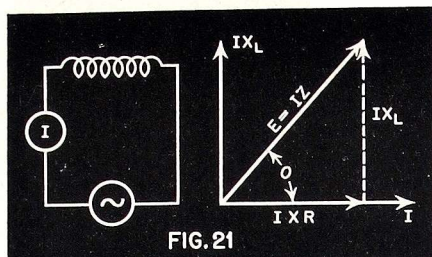

FIG. 21
We are now in a position to analyze the vector diagram of a coil, with due consideration to its d-c. resistance. It should be pointed out, at this stage, that no coil is devoid of resistance, and that assumptions made otherwise, are for purposes of explanation only. Referring to *Fig. 21*, we note that the inductive voltage drop,  $X_L I$  is laid off 90 degrees ahead of the current. On the other hand, the voltage drop due to the d-c resistance of the coil is directly a result of the current flowing through the coil, and is in phase with this current. It is, therefore, laid off along the current line.
Referring back again to Fig. 21, we note that the resultant voltage, E, by equation (2) is,
It will be noticed that due to the d-c resistance in the coil the current lags the applied voltage by less than 90 degrees. The impedance, Z, can be obtained by measuring the current and voltage in the circuit, and dividing the former into the latter, or by applying formula (6), knowing  $X_L$  and R. Formula (6) is one of the most important relationships in a-c circuits, and its derivation indicates only one of the many applications of vectors. The angle  $\theta$  in Fig. 21 is referred to as the phase angle.